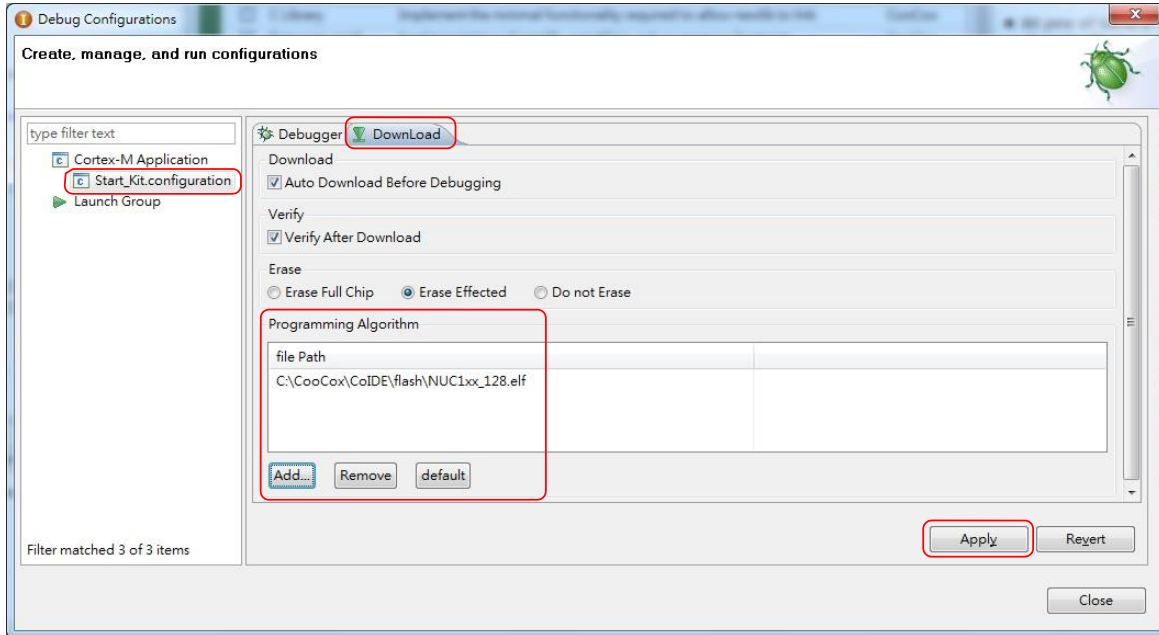

Figure 4-21 CooCox ColDE Programming Settings
Step 4: In the **Download** tab of the *Debug Configurations* form (through invoking **Debug** → **Debug Configurations**), select the **Auto Download Before Debugging** or **Verify After Download** option to proceed with a specific programming, and set the Programming Algorithm path as “*C:\CooCox\CoIDE\flash\NUC1xx_128.elf*”, as shown in Figure 4-21.
Step 6: At last, click **Apply** to save the settings, as shown in Figure 4-21.